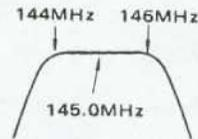

Fig. 15 Sweep Waveform
- (1) Set the unit ready for reception, and turn the Aux switch is at ON (unused channel).
- (2) Connect the sweep generator to the antenna terminal, and the detector to TP1.
- (3) Increase the vertical gain of the oscilloscope to the maximum, and adjust the sweep generator frequency and output level so that an appropriate waveform can be obtained.
- (4) Repeatedly adjust TC1, TC2 and L1 until a waveform, such as shown in Fig. 15, is obtained.